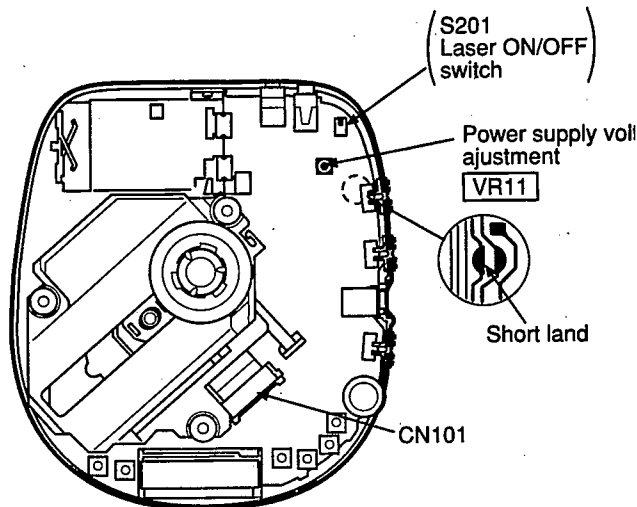

Fig. 1
Short-circuit the lands of the laser ON/OFF switch (S201) by soldering them. It turns "ON" position. (Refer to below Fig. 1. or printed circuit board and wiring connection diagram for short land location on page 18.)
2. Take care to connect CN101 (as shown in Fig.1).
2. Connect the AC adaptor cord to the DC (IN) port and move the PLAY switch to the ON position. Anti-shock is set in OFF position. (Use a new dry cell battery or a rechargeable battery that is full charged.)
4. Adjust **VR11** on the P.C.B. at  $3.12 \pm 0.02V$ , as shown in Fig.1.